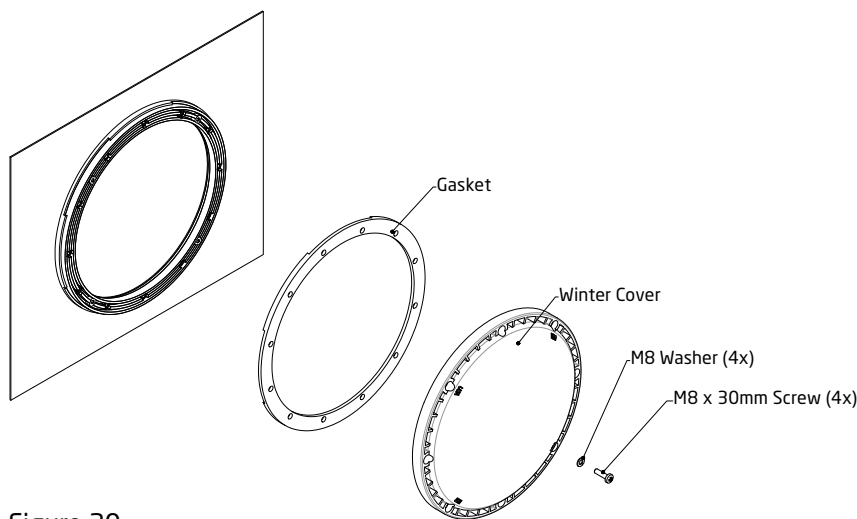

Figure 20
In areas subject to freezing water temperatures, you should protect your equipment. We recommend you purchase a winter cover kit part #2326000010K. This kit includes one (1) winter plate, one (1) gasket, four (4) M8 washers, and four (4) M8 x 30mm screws. (See Figure 20)